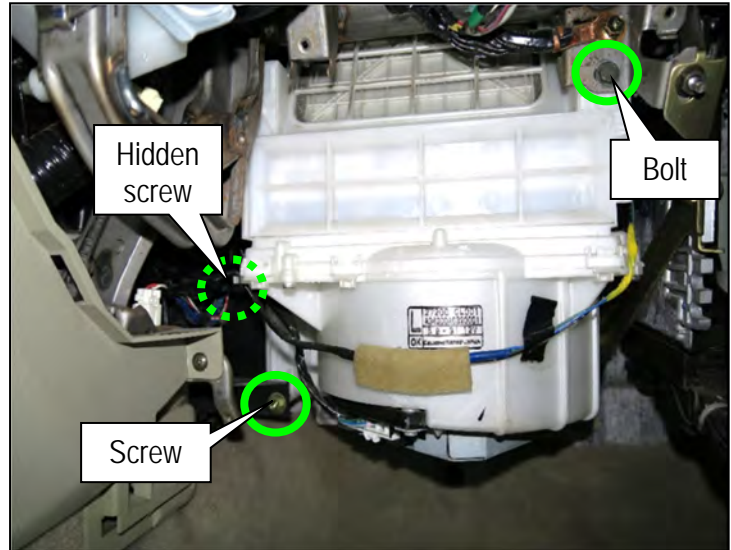

Figure 11
14. Remove the two (2) screws from the LH side of the blower case and one (1) bolt from the RH side of the blower case (Figure 11).
**HINT:** The top LH blower case screw is not visible in Figure 11.